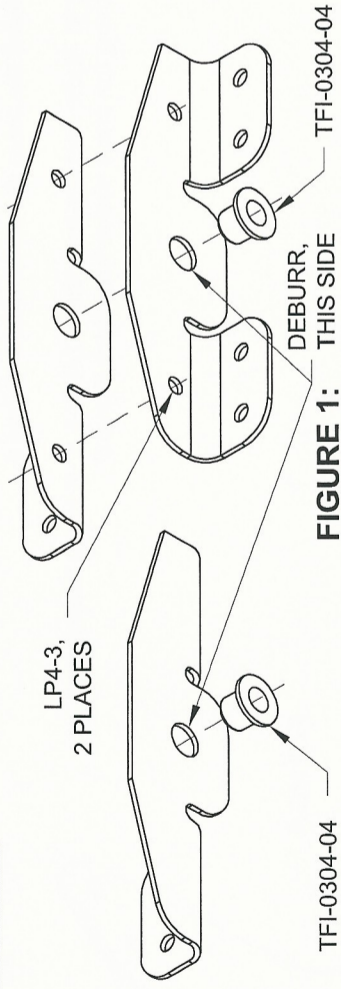

FIGURE 1:
Step 1: Rivet the F-1211D Attach Brackets together per Figure 1. Deburr the 1/4 in. holes per call-outs. Install the bushing (oversize before press fit) as shown. If necessary use a C-clamp with a small socket opposite the bushing.